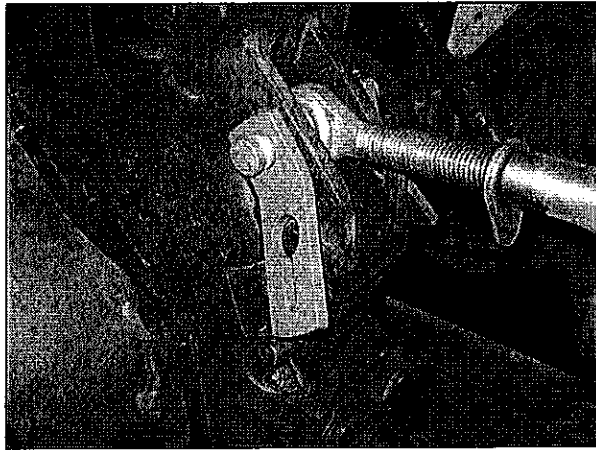

Figure 1
3. Locate and pin each of the two keyhole plates to each side of the tractor lugs with pins from the tractor (figure 1).